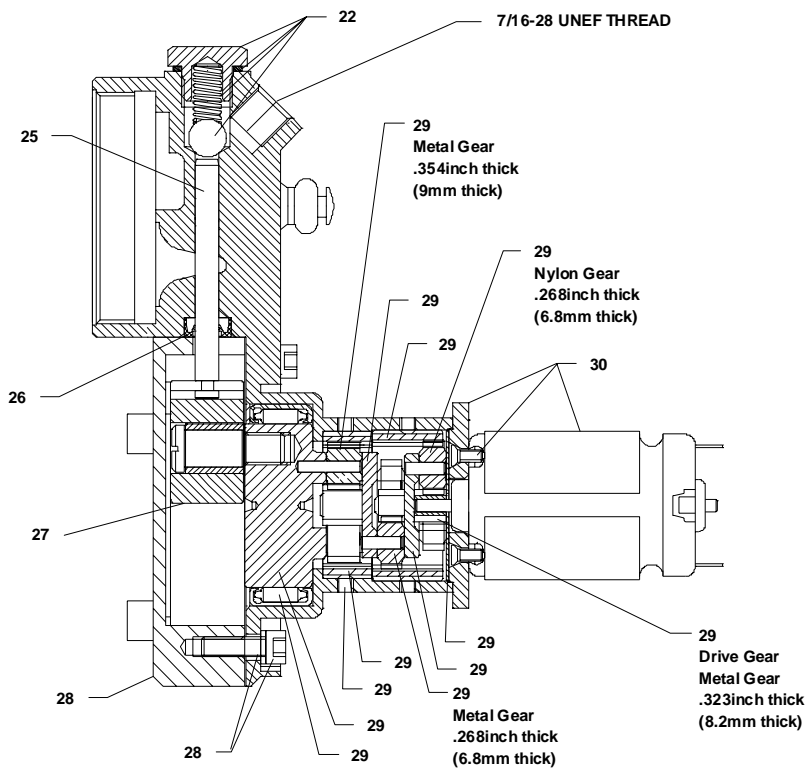

Figure 7
- 1) Withdraw the follower rod from the grease tube assembly cap and engage it with the follower by rotating the follower handle. Exert force on the follower handle while holding down the vent valve 23 (Figure 7).